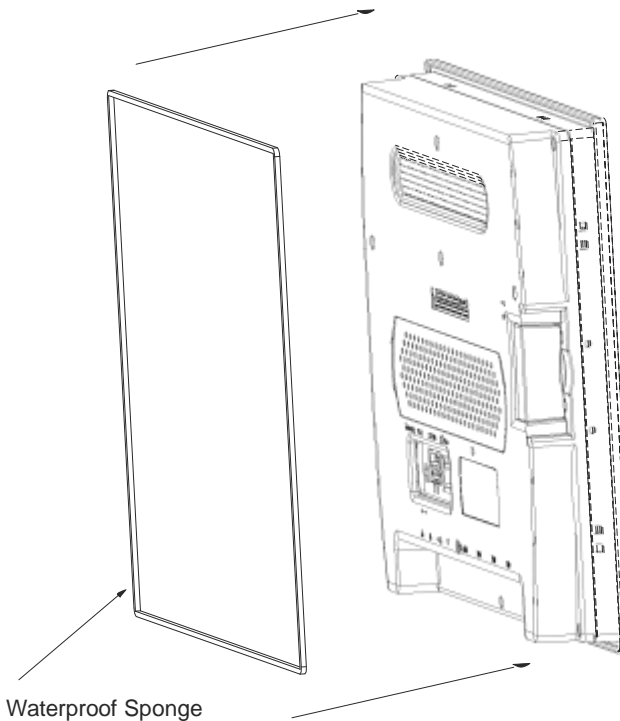

Figure 2.8: Panel Mounting\_1
**Step 1:** There is an adhesive waterproof gasket on the front bezel. Make sure the waterproof gasket is in position before installing the 2500-VP15 on the panel opening. (Figure 2.8)